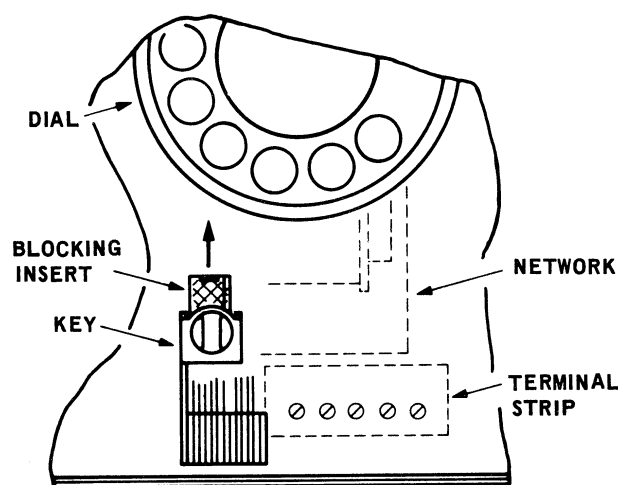

Fig. 4 — Blocking Insert
3.07 If headset operation is required, remove the faceplate and cover per 3.05 and remove the yellow blocking insert (see Fig. 4) from the turn switch by pulling it straight out toward the dial. Insert the headset plug into the jack located on the lower right-hand side of the set and at the same time rotate the control key, located in the lower left-hand corner of the faceplate, 90 degrees in a clockwise direction. Dial tone will be heard in the headset receiver and dialing will be possible without removing the handset.